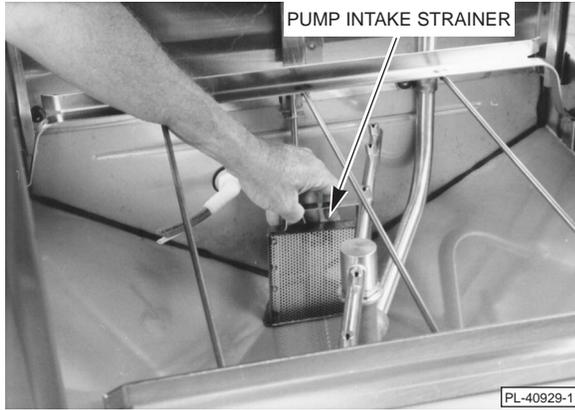
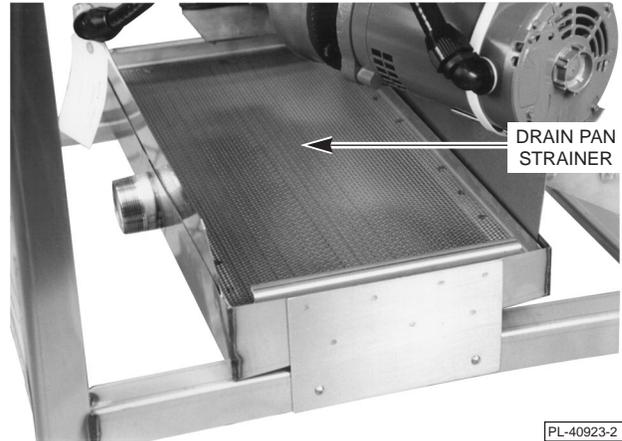
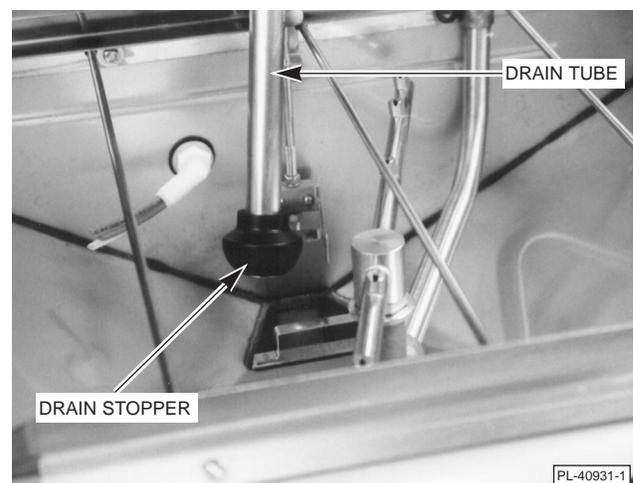

Fig. 12
Fig. 13
Fig. 17
Check to make sure that the pump intake strainer (Fig. 12), the drain pan strainer (Fig. 13), and the drain tube (Fig. 17) are in place and that both strainers are free of debris. The pump intake strainer must drop completely to the bottom of the sump. THE DRAIN AND STRAINERS MUST BE CLEAN AND FREE OF DEBRIS AT ALL TIMES.
Occasionally, check the drain pan strainer (Fig. 13) and clean it as necessary to prevent it from becoming clogged (which could result in water splashing onto the floor). **DO NOT** remove the drain pan strainer during a wash cycle.
The machine may be drained by either pressing and holding the *DRAIN/FILL* switch on *DRAIN* until the machine is completely drained, or by opening the doors and removing the drain tube (the drain stopper is attached to the bottom of the drain tube) (Fig. 17). When the machine is completely drained, replace the drain tube/drain stopper, close the doors and hold the *DRAIN/FILL* switch on *FILL* for approximately ten seconds.
3. Remove the pump intake strainer (Fig. 12), the drain tube/drain stopper (Fig. 17), and the drain pan strainer (Fig. 13) and scrub them in a sink.